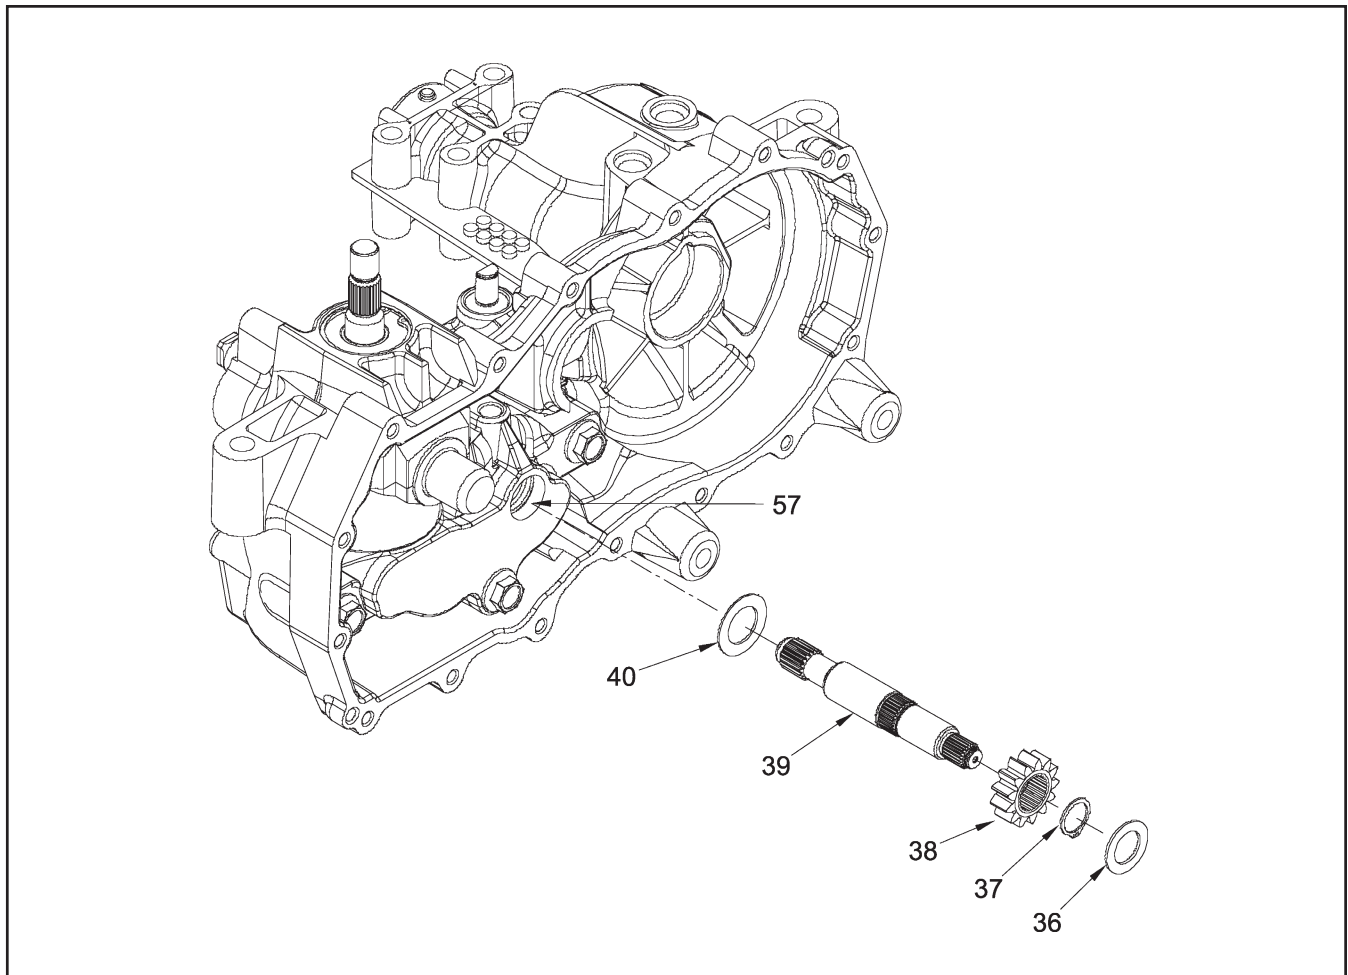
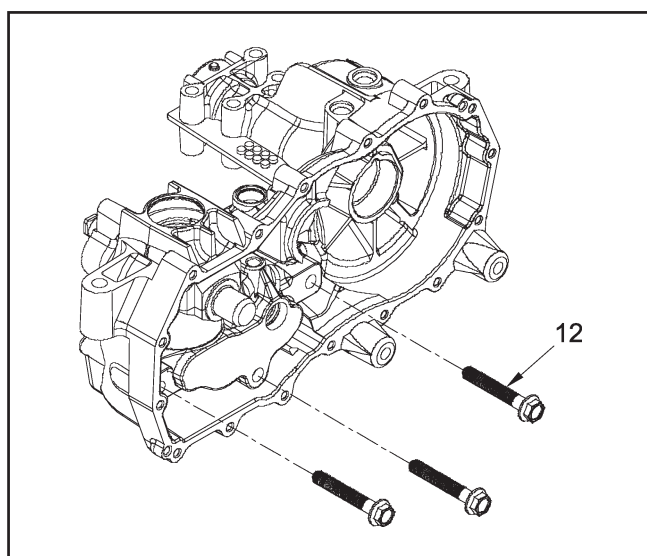
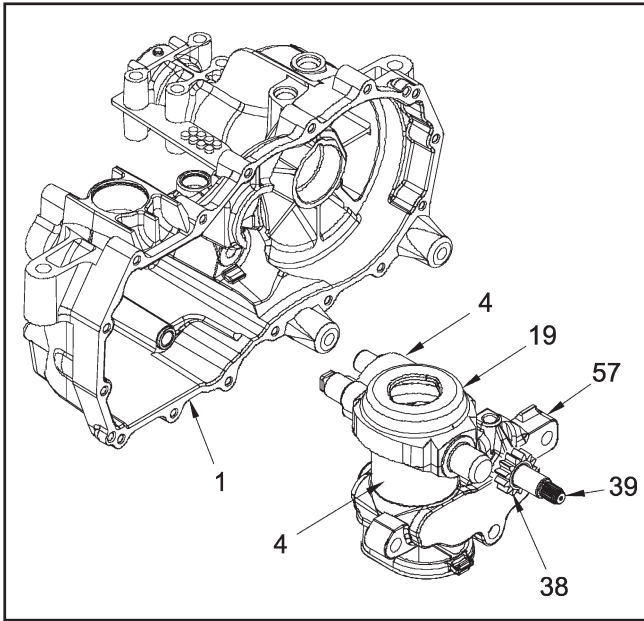

Figure 10. Motor Shaft
Figure 16.
Figure 20.
Refer to Figure 10.
12. **(See Figure 16)** Remove the center section mounting screws (12). NOTE: The center section is under motor block piston spring pressure. These screws are factory installed to 700 lb-in (80 Nm) and use an anaerobic thread adhesive. A breaker bar will be required at this step. Clean the internal threads of the mounting holes with compressed air.
6. (See Figures 10 & 20) Install the motor shaft (39), pinion gear (38) and flat washers (36 & 40) into the center section (57).
7. Assemble the motor block assembly (4) onto the motor shaft (39).
8. (See Figure 20) Install the motor shaft, center section and motor block assembly into the housing so that the motor block pistons contact the thrust bearing race. NOTE: Hold in place and insure all pistons are still positioned correctly in the cylinder bore by confirming spring bias against the center section.
9. (See Figure 16) After applying thread adhesive, insert the center section mounting screws (12) while holding downward pressure on the center section assembly (57, Figure 20).
10. Tighten the center section mounting screws (12) to the proper torque. Refer to Table 6. NOTE: The center section must be fully seated into the pilot bore before the screws are tightened. The center section will not self